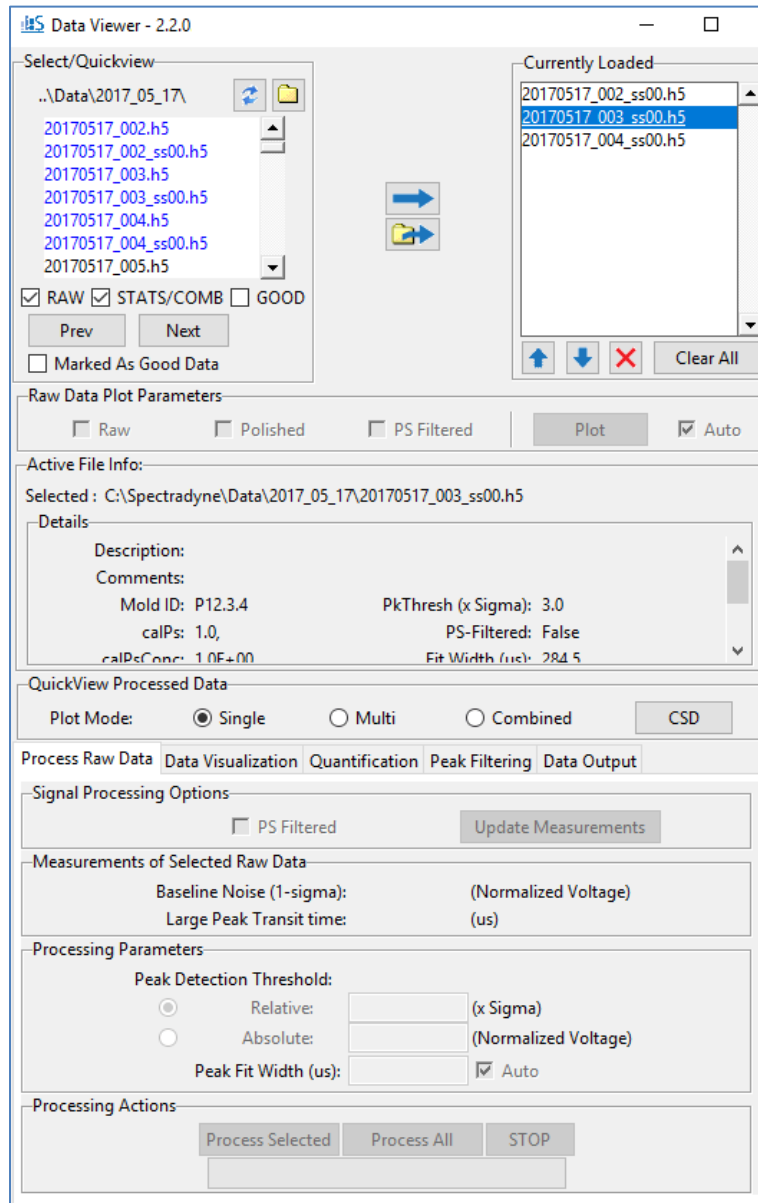

Figure 11. Overview of the Spectradyne Viewer software user interface.
- In the Select/Quickview frame (Figure 11), use the folder icon to the right of the current path to navigate to the location of the raw data.